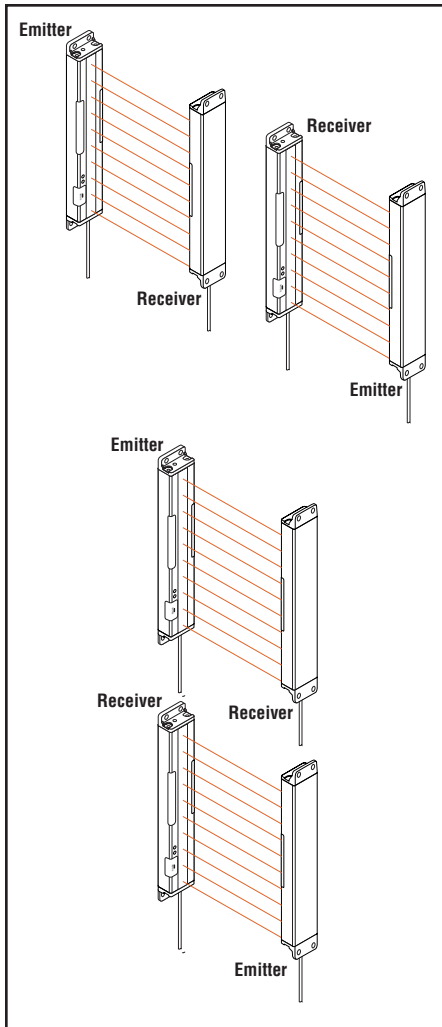

Figure 2. PVA installation: alternate multiple pairs of emitters and receivers to avoid crosstalk.
- Alternate the relative position of the emitters and receivers as shown in Figure 2.